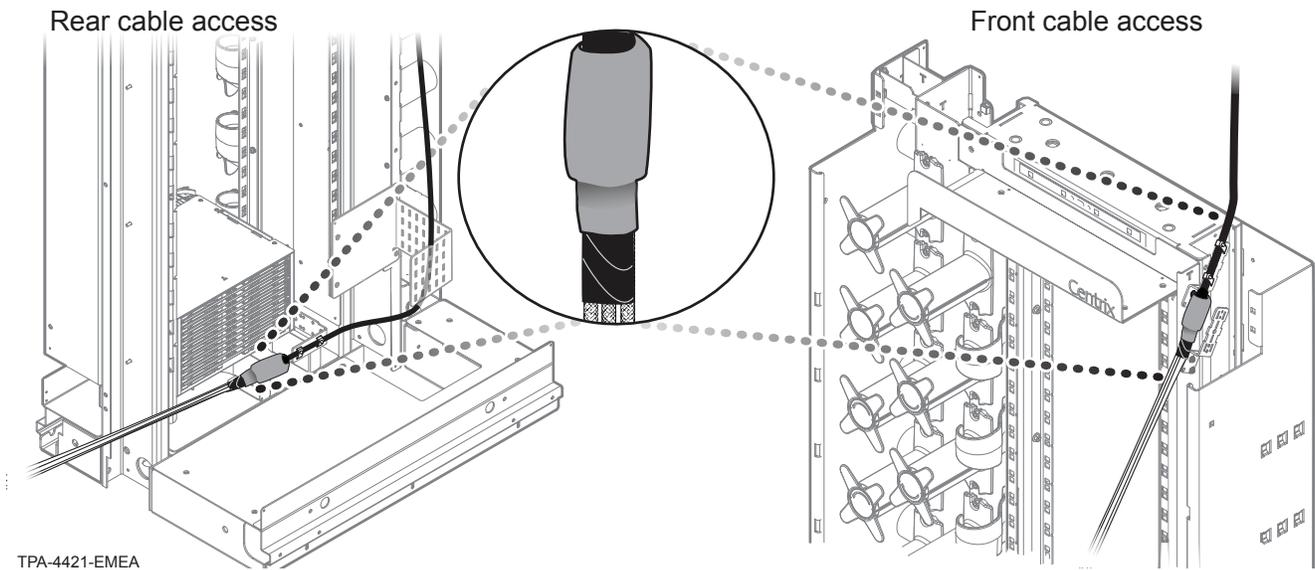

Figure 14
**Step 3:** Tape joint and cover with heat-shrink tubing (Figure 14).